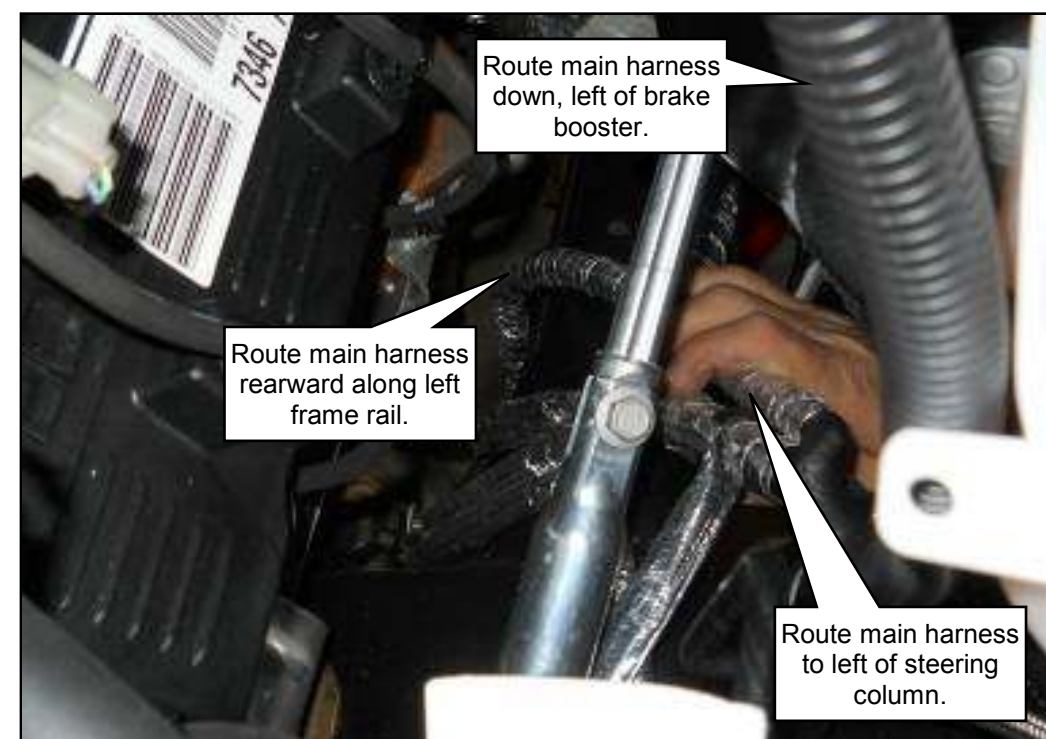

Figure 7.4
11. Route the lower end of the underhood harness with the 6-pin and 2-pin connectors down along the wheel well to the left of the steering column and back toward the left side frame rail. Following the Ford chassis harness. **Note:** Make sure to secure the ROUSH CleanTech underhood harness to keep it away from the steering column and other heated or moving components. **Figure 7.4.**